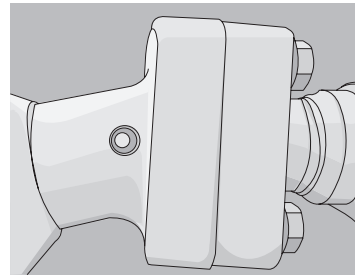

Figure 4-5
6. 1 place of the support arm's spherical hinge (straight tilt blade) (Figure 4-5)